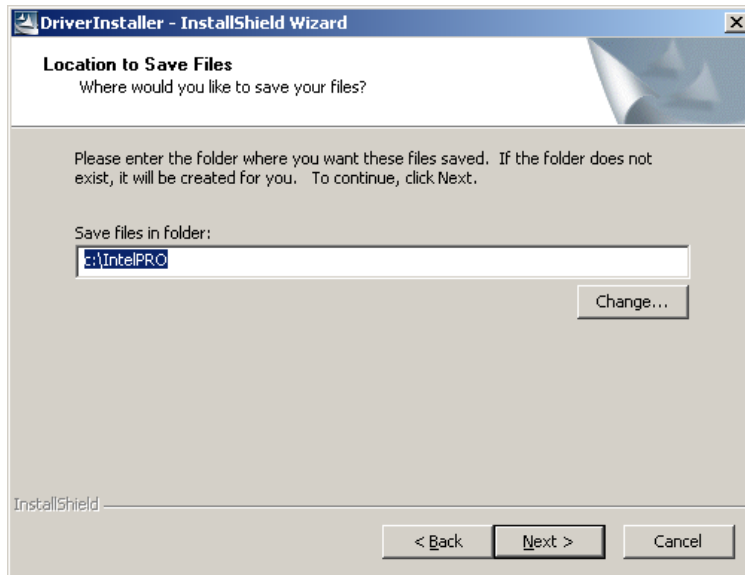

Figure 7-19: Location to Save Files
Step 8: The Location to Save Files window (Figure 7-19) appears.